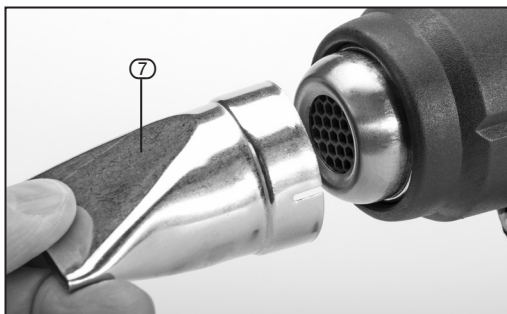

FIG. 4
6.4 PAINT REMOVAL FROM WINDOW FRAMES – FIG.4